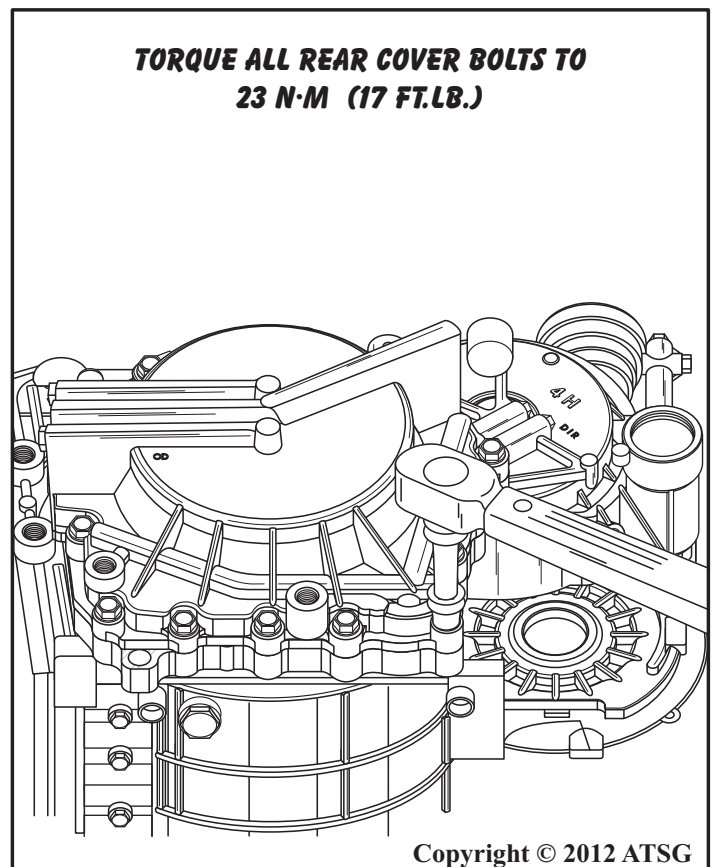

Figure 273
69. Torque the 14 rear cover retaining bolts to 23 N·m (17 ft.lb.), as shown in Figure 273.